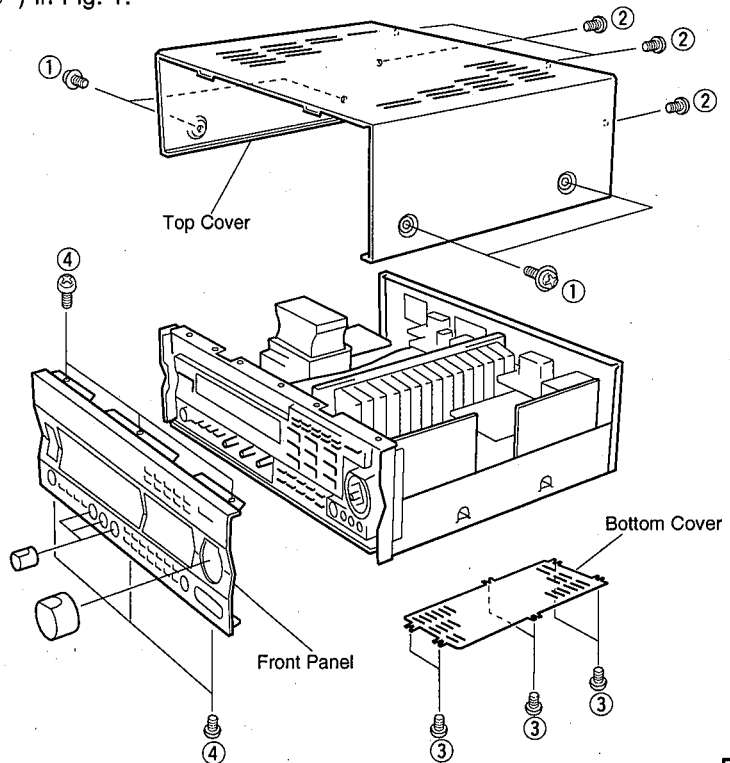

Fig. 1
a. Remove 4 screws (1) and 4 screws (2) in Fig. 1.
a. Remove 6 screws (3) in Fig. 1.
b. Remove 6 screws (4) in Fig. 1.